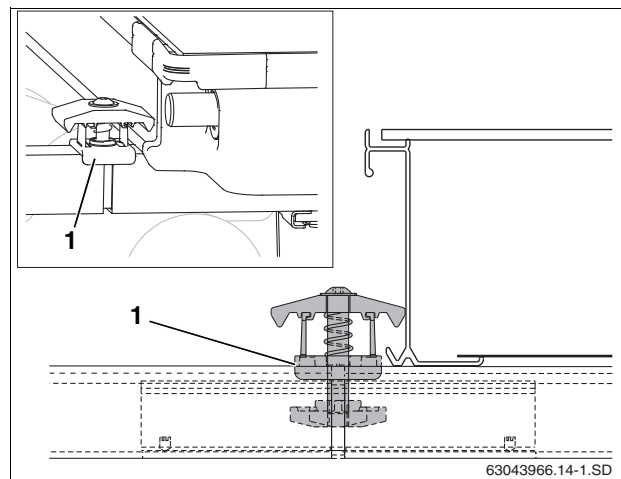

Fig. 41 Fitting a double-sided collector clamp
- Insert the double-sided collector clamp, nut first, into the connector between two horizontal rails, then turn 90 degrees clockwise and push down onto the rail with the plastic cover (Fig. 41, [1]) sitting on top of the horizontal rail.